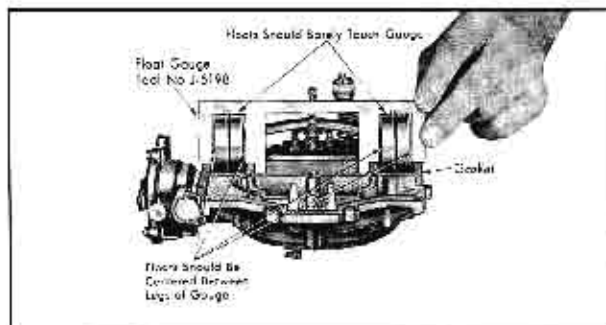

Fig. 12-16 Float Level Adjustment
**NOTE:** Rochester floats are adjusted with the bowl cover gasket on the cover, as shown in Fig. 12-16.
3. Place Float Gauge, Tool No. J-5683, in position as shown in Fig. 12-16, so that gauge is located against the curvature in the bore of the carburetor air horn.